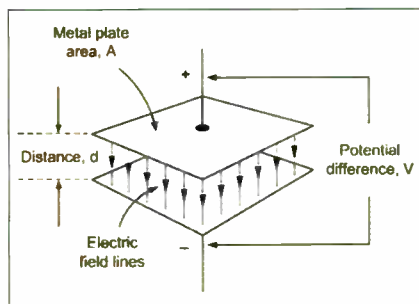

Fig.3.2. A simple parallel-plate capacitor
A simple *parallel plate capacitor* is shown in Fig.3.2. In practice and although air-spaced capacitors are used in some radio frequency (RF) applications, the space between the plates of most capacitors is filled with an insulating material, known as a *dielectric*. Typical dielectric materials